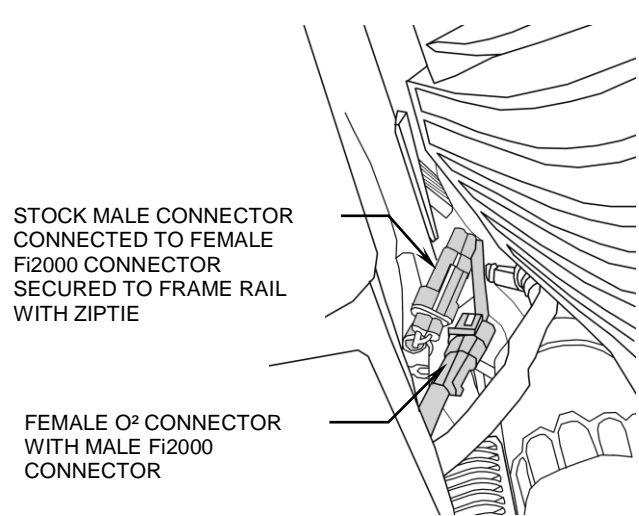

FIGURE 3
5. Locate and unplug the connector for the front oxygen sensor. Plug the male connector of the oxygen sensor harness into the connector on the oxygen sensor. Now plug the female pigtailed connector into the connector on the motorcycle's stock harness, see Figure 3. Using the supplied zip ties secure the oxygen sensor connector to the small frame brace.